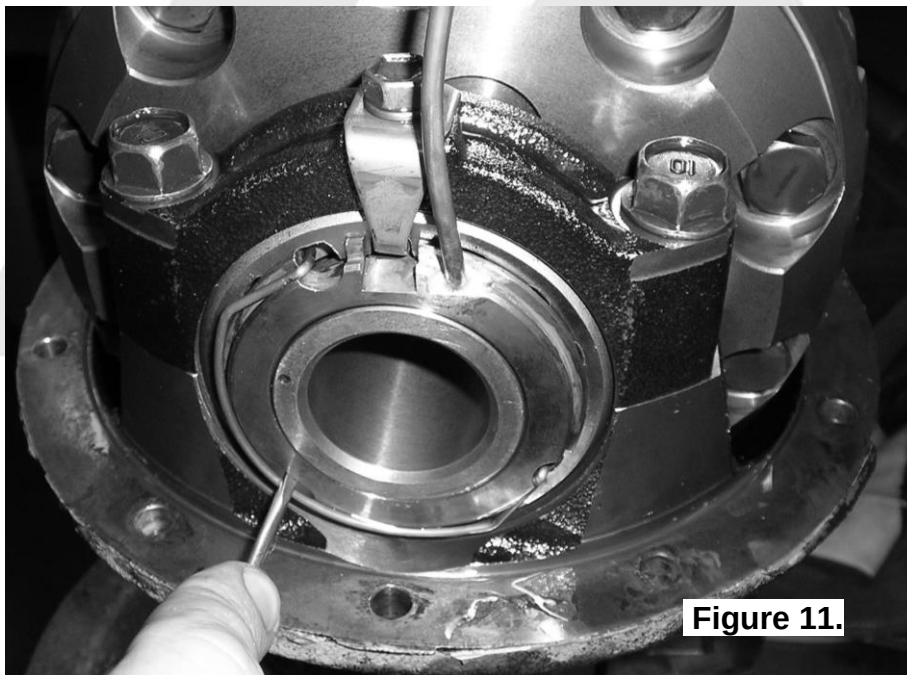

Figure 11.
- ☐ Install the spring clip by first hooking both ends of the clip into the small aligned cutouts of the seal housing and the adjuster nut, and then snapping the clip into the groove of the seal housing using a screwdriver. (Fig.11.)